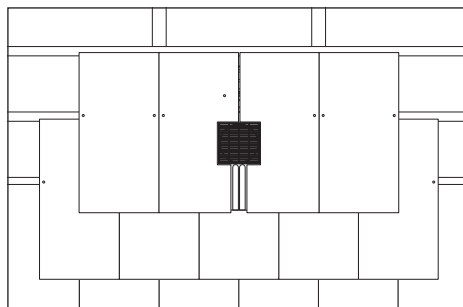

Fig. 4 – Cut slates to avoid grille on vent unit
- 5 Cut two 'C' shaped slates to fit either side of the ventilator so that they neatly abut the grille and central draining up-stand. Hole each formed slate piece as shown, ensuring that it is twice nailed to battens (Fig. 4). Continue slating in the normal manner.